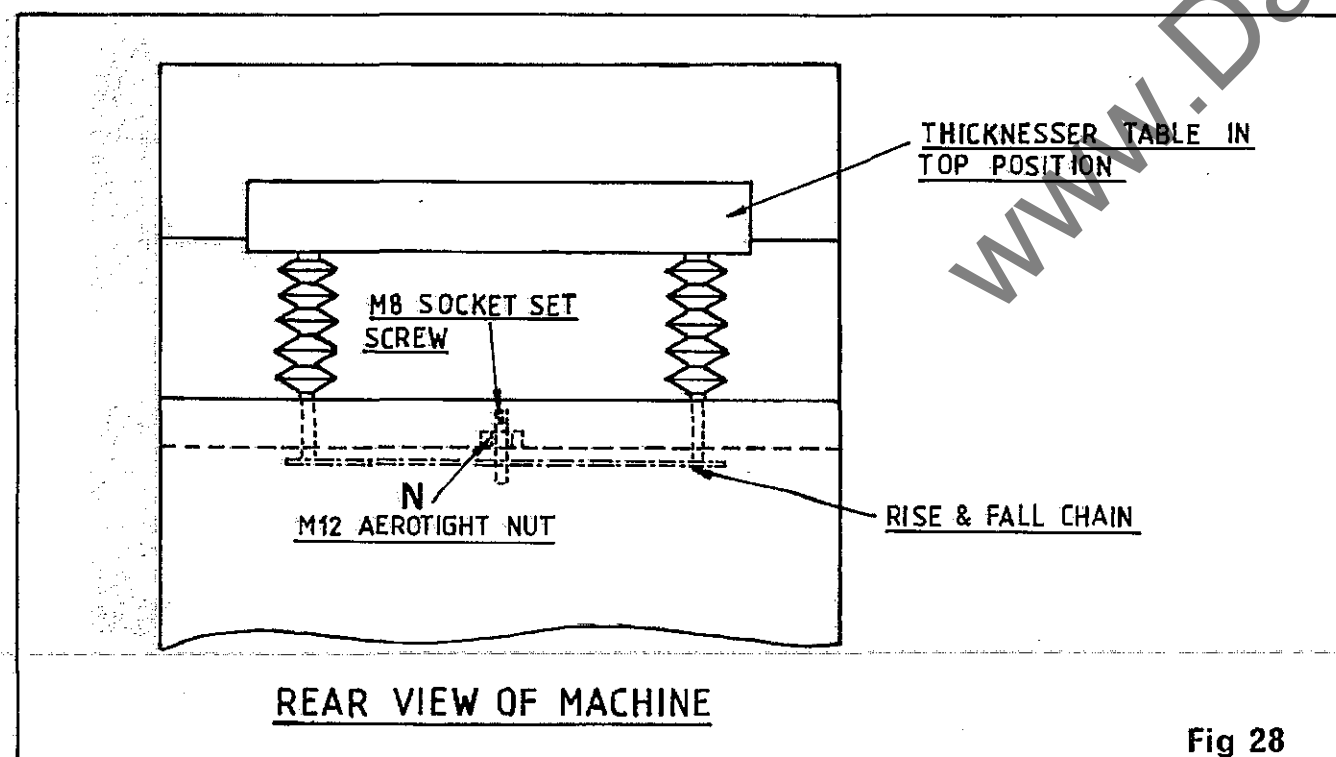

Fig 28
- 3) Loosen M12 aerotight nut "N" FIG.28 and turn M8 grubscrew.